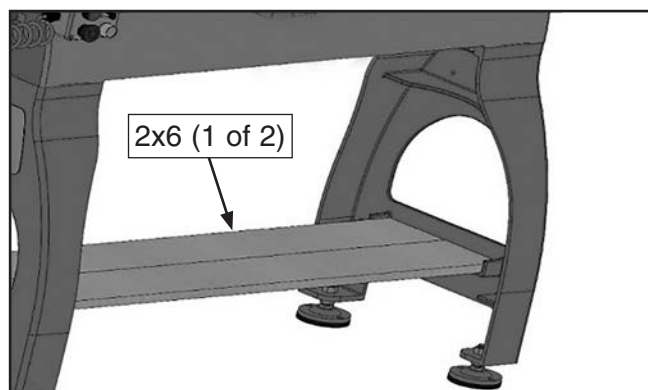

Figure 18. 2x6s positioned in brackets in shelving option one.
1. Set two 2x6s side by side in upper brackets of leg castings (see **Figure 18**).